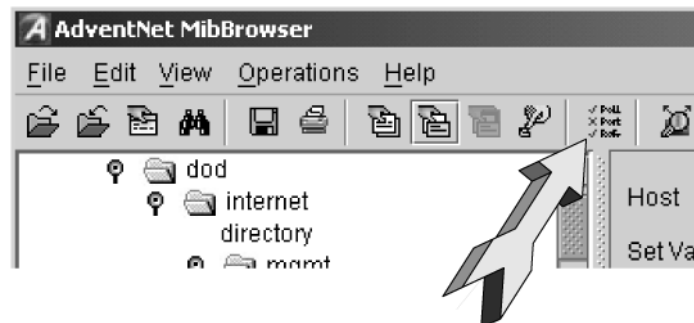

Figure 26 ManageEngine MibBrowser Settings Button on the Toolbar
Figure 26 on page 100 depicts the primary window of the ManageEngine MibBrowser. It consists of a menu bar, a toolbar, a left frame and a right frame.
- The same can be done through clicking the MibBrowser settings button on the toolbar. See figure 26.